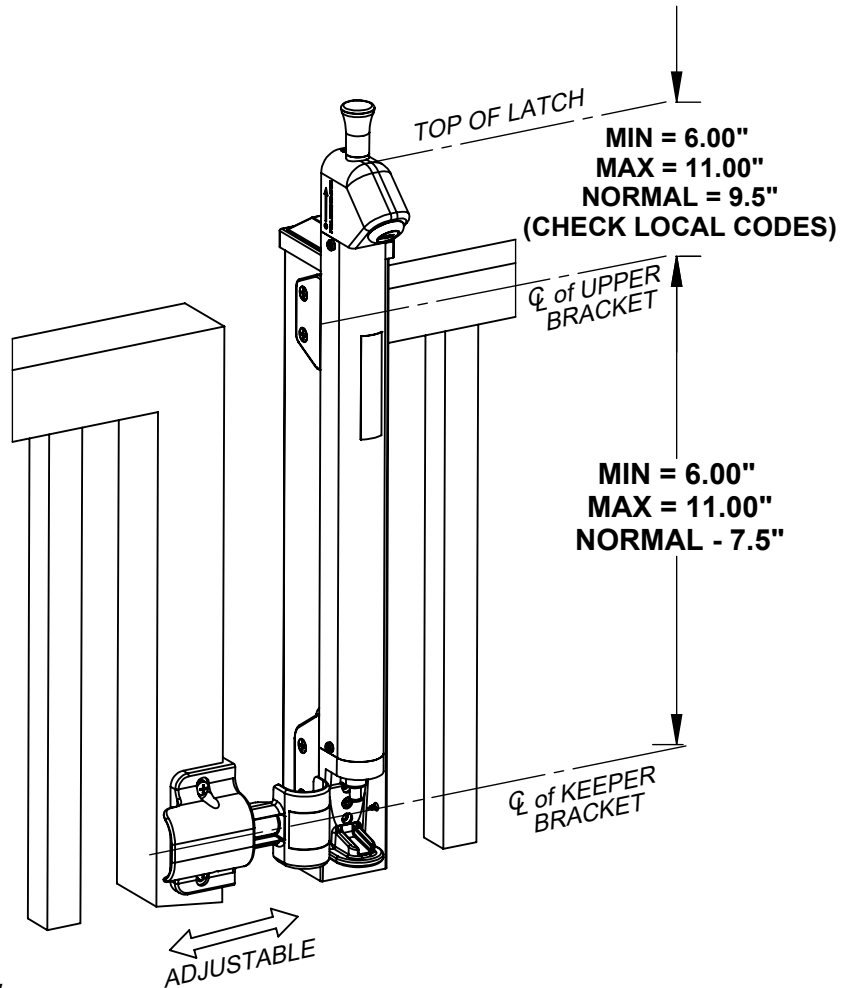

Figure 1
1. Align the rear groove in the Main Latch Body with the tab in the Upper Bracket and slide the Latch into position. Using a measuring device, locate the top of the Latch at the proper height (Figure 1). NOTE: Refer to all local building codes.